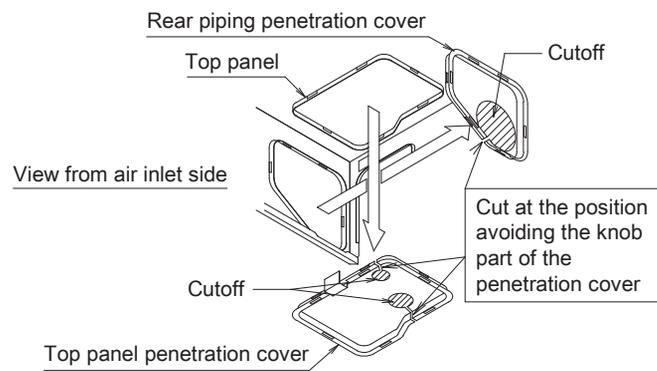
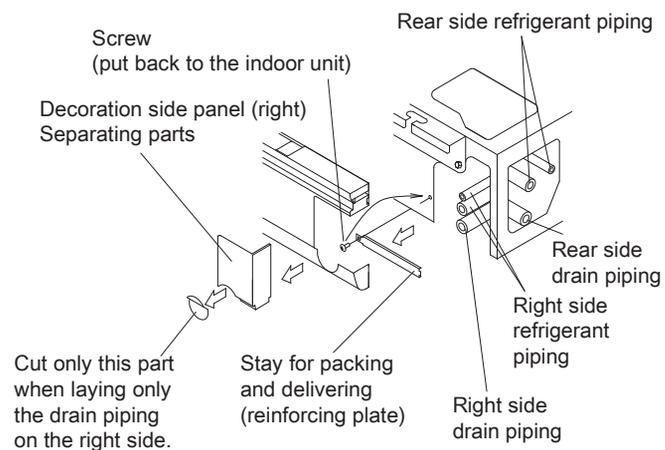
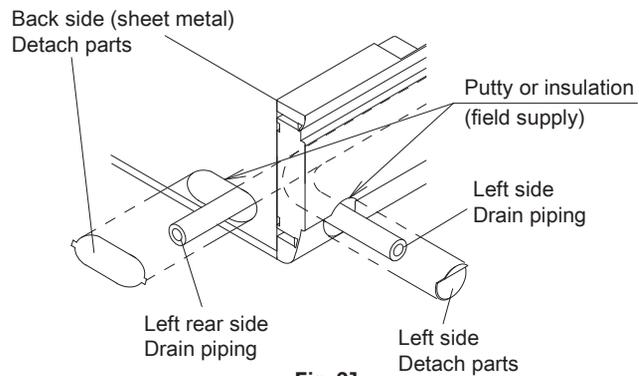

Fig. 16
Fig. 18
Fig. 21
- Remove the stay for packing and delivering (reinforcing plate) before refrigerant piping work. (Refer to Fig. 18)
(1) For rear side piping
- Remove the rear piping penetration cover, and connect the piping. (Refer to Fig. 16 and 18)
(2) For upward piping
- Remove the top panel penetration cover, and use the L-shaped connection piping kit (optional accessory) to conduct piping. (Refer to Fig. 16 and 17)
(3) For right side surface piping
- Remove the stay for packing and delivering (reinforcing plate) at the right side, and put back the screw to the original position of the indoor unit. (Refer to Fig. 18)
- Open the knockout hole at the decoration side panel (right), and connect piping. (Refer to Fig. 18)
- After piping is finished, cut the removed penetration cover along the shape of piping, and install. Also, for top panel penetration cover, as it was before removed, put the horizontal blade motor and thermistor lead through the clamp of the top panel penetration cover and fix. (Refer to Fig. 16 and 19)
(1) Carry out drain piping.
- Drain piping can be connected from the following directions: For right rear/right side, refer to Fig. 18 of "6. REFRIGERANT PIPING WORK", and for left rear/left side, refer to Fig. 21.